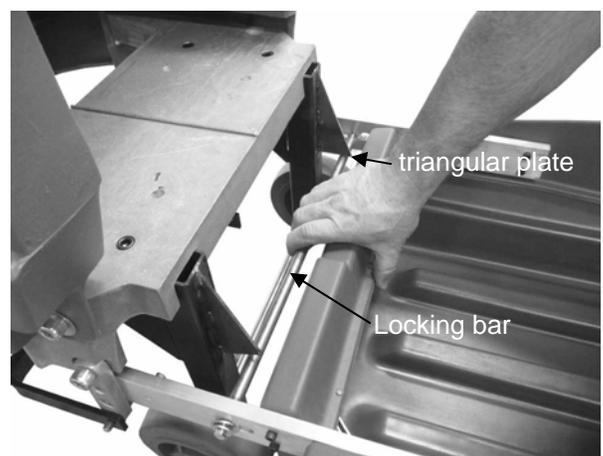

Fig. 2
3. When the handle is lowered there is a locking bar at the lower part of the handle assembly that automatically engages with the base assembly (Figure 2). Under normal cleaning conditions this keeps the handle down on the stationary tread. To unlock the bar pull it back to clear the two triangular shaped plates attached to the base assembly (Figure 2).